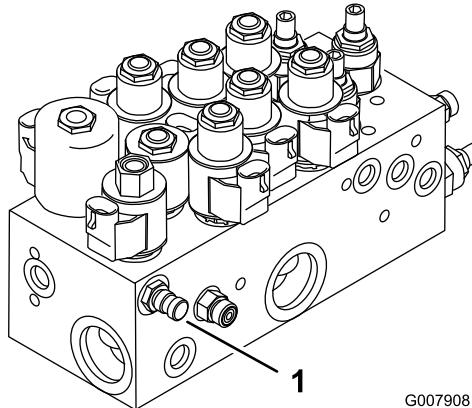
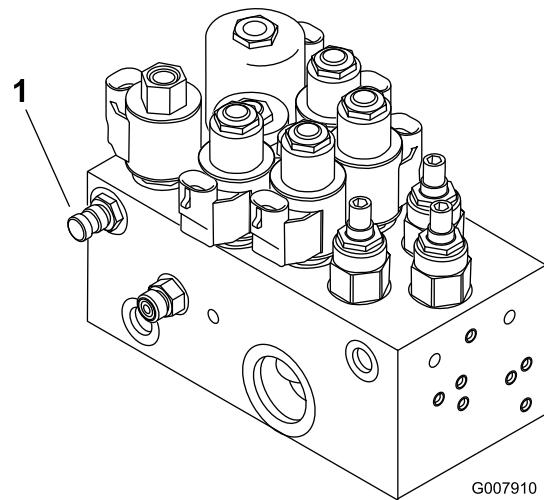

Figure 79
Figure 80
1. Test Port A (Figure 79 and Figure 80) is used to assist in trouble shooting the hydraulic circuit for the lift cylinders.